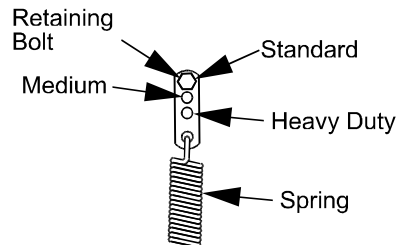

FIG. 19
- b) For a heavier drive setting, relocate the spring anchor link to either the “medium” or “heavy duty” positions as shown in Figure 19. The spring anchor links are attached to the upper rear corner of the hydro drive shields on the left and right hand sides of the machine.